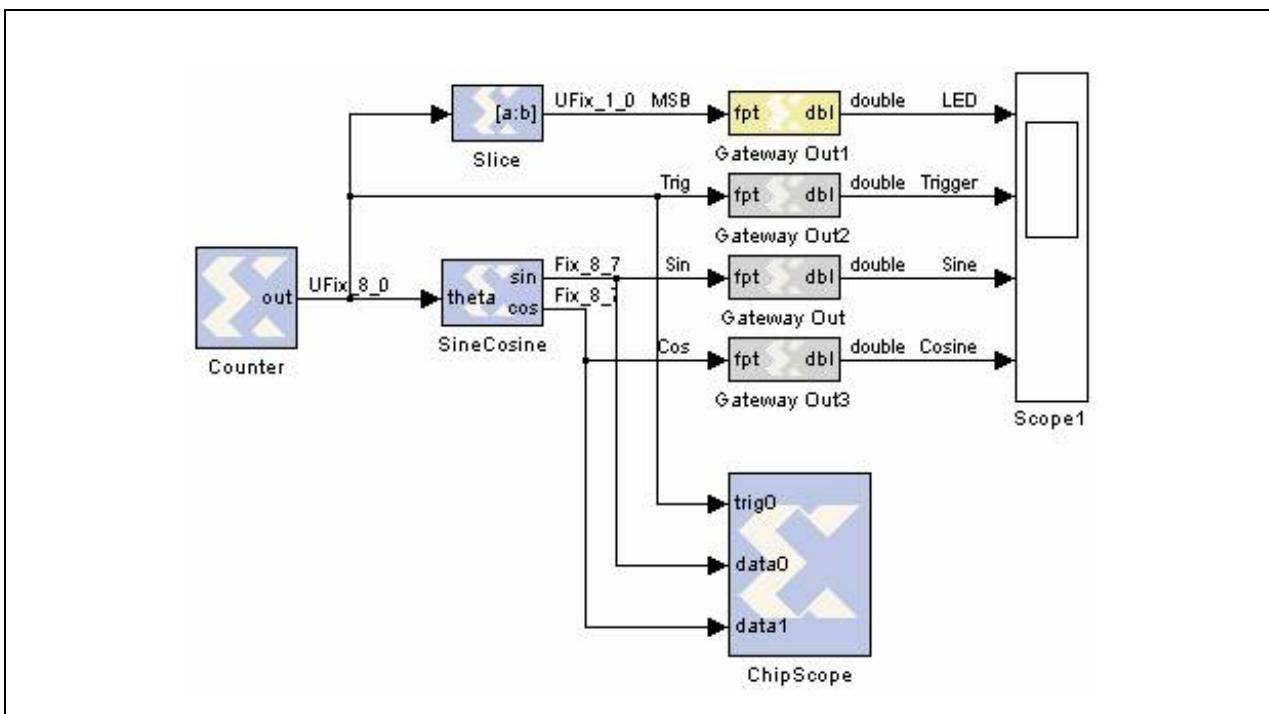

Figure 137: Connecting the Chipscope Block
7. Connect the Chipscope Block. The signal used to trigger Chipscope is the counter output. The two buses to probe are the sine and cosine from the Sine/Cosine table. Connect the signals appropriately as shown in Figure 137 on page 212.